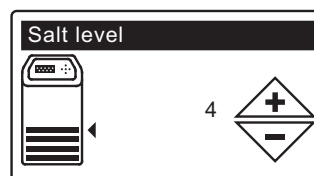

FIG. 20
9. **SALT LEVEL** Press the UP (▲) or DOWN (▼) buttons to set the salt level (See Figure 20). It should match the lowest number visible on the brinewell above the salt.